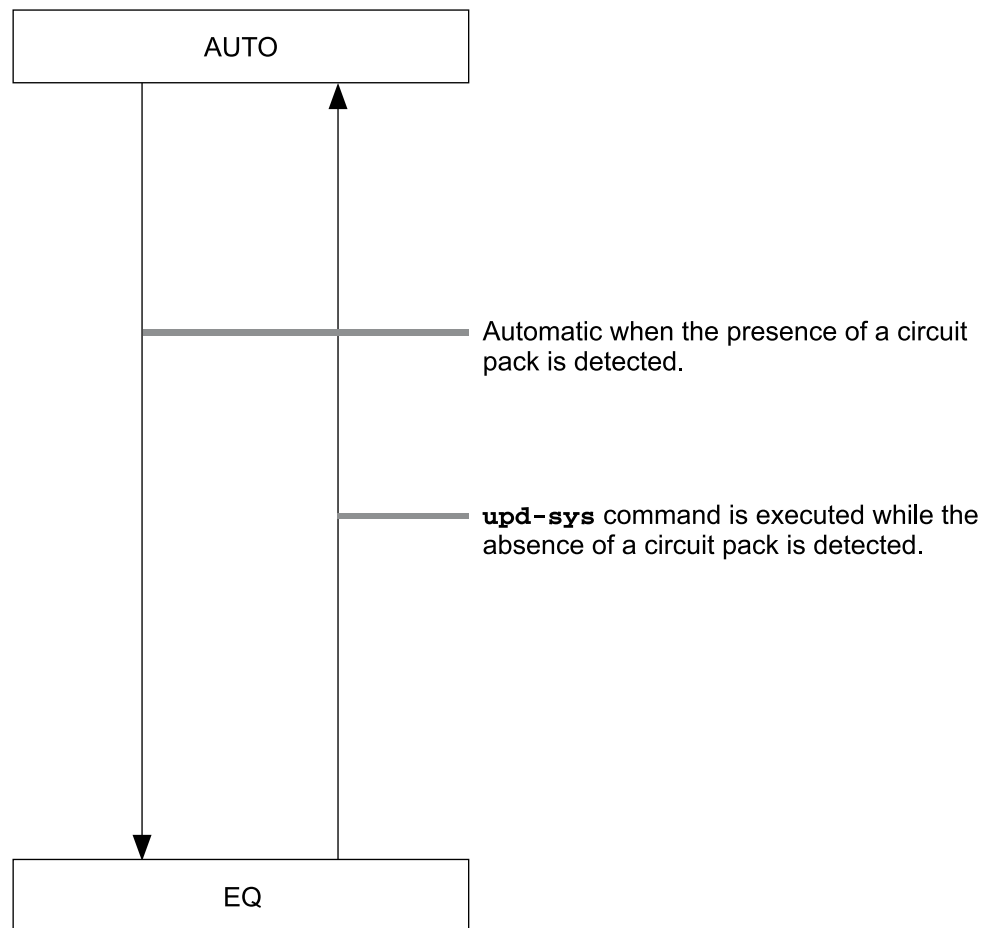

Figure C-3. OA and TLM Circuit Pack Slot States
■ Figure C-3: OA and TLM Circuit Pack Slot States	C-5